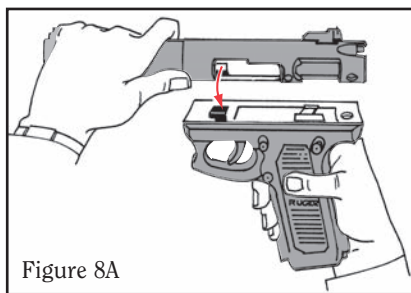
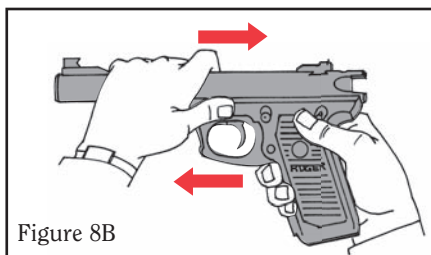

Figure 8A
Figure 8B
When the chamber is empty, the loaded chamber indicator should be flush with the left side of the receiver. (See Figure 8A, p. 18.)
When the chamber is loaded, the rearmost portion of the loaded chamber indicator should protrude from the left side of the receiver, and a red dot also should be visible on the forward top portion of the loaded chamber indicator. (See Figure 8B, below.)
3. Place the barrel receiver on top of the frame so that the square lug engages the square front recess on the underside of the receiver (see Figure 8A). Push the barrel rearward until it stops, with the rear end of the receiver slightly overhanging the rear end of the grip frame (see Figure 8B). If alignment cannot be achieved by hand pressure, place the pistol (muzzle down) on a padded bench and strike the rear of the grip frame immediately below the receiver with a plastic or wooden mallet. Be careful not to damage the grip frame.